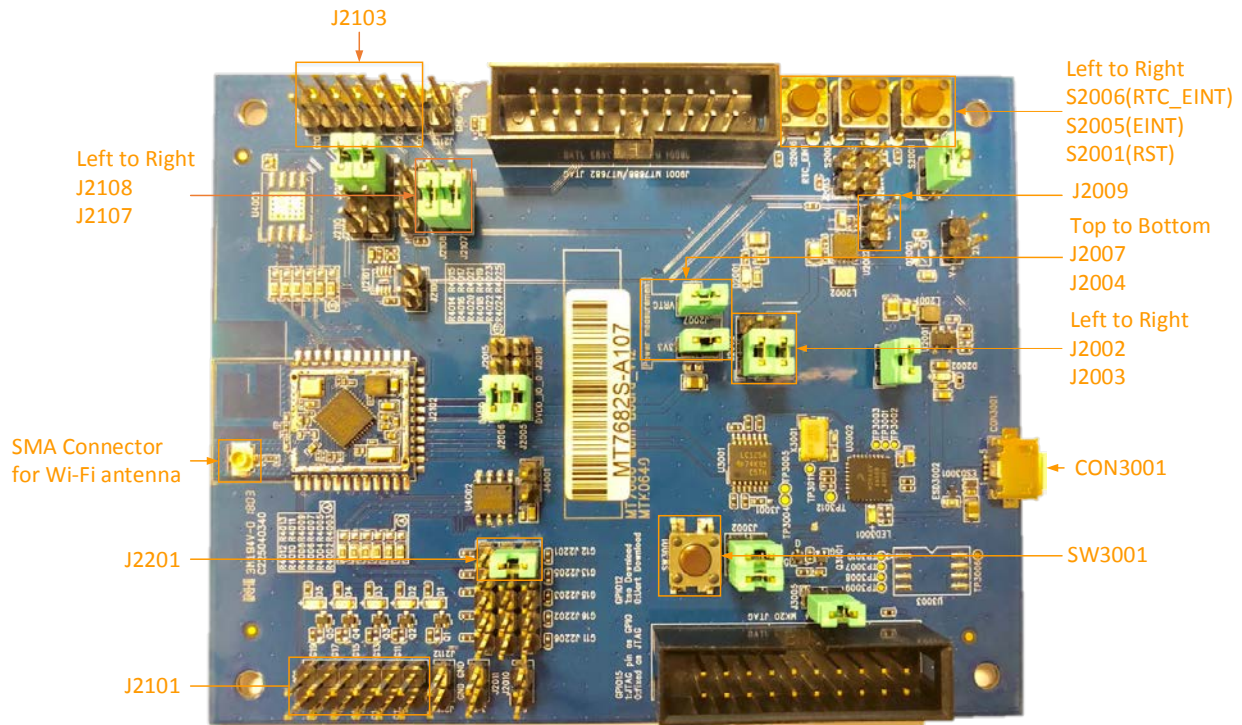
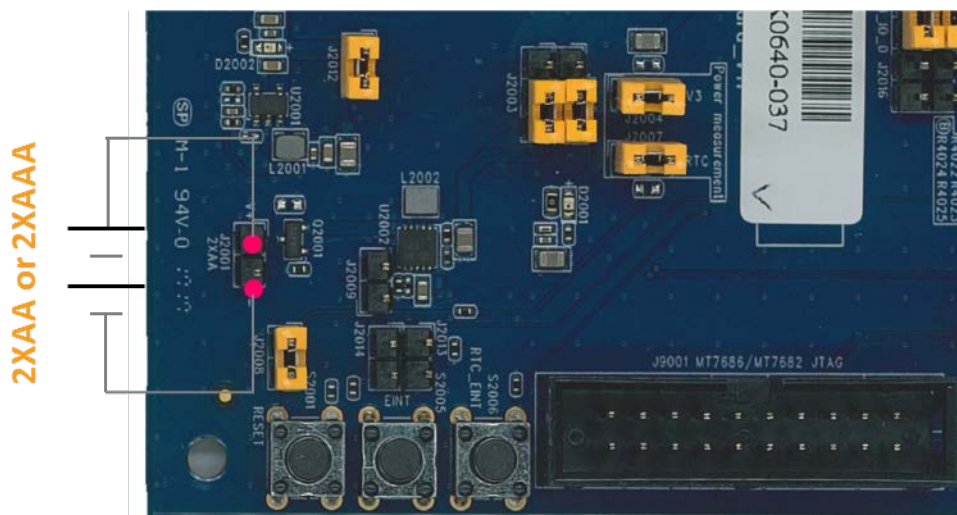

Figure 2. Jumpers and connectors on the MT7682 HDK
Figure 6. Power up the HDK using two AA or AAA Battery (J2001)
MT7682 HDK includes a main board (MT7686 Main Board_V11) and a MT7682 stamp module. The MT7682 stamp module is mounted on the main board. The pin description of the MT7682 HDK is shown in Figure 2.
The description of pins (Figure 2) and their functionality is provided below.
The development board should now be connected to the PC, as shown in Figure 2.
An on-board switching regulator provides voltage of 3.3V for the MT7682 HDK based on MT7682, if the power is supplied from an on-board micro-USB connector **CON3001** (Figure 2). This supply can be isolated from the switching regulator using the jumpers. Note, that the jumpers **J2002** pin 1 and 2, **J2003** pin 1 and 2, **J2004** and **J2007** are required to be set on. More details on the jumpers can be found in Table 1.
- Connect two external AA battery to battery pin header (**J2001**) to supply power to the system, as shown in Figure 6. When using two AA battery, plug the USB to micro-USB connector **CON3001** (Figure 2). Note, that the jumpers **J2002** pin 2 and 3, **J2003** pin2 and 3, **J2004**, **J2007**, and **J2009** are required to be set on. More details on the jumpers can be found in Table 2.